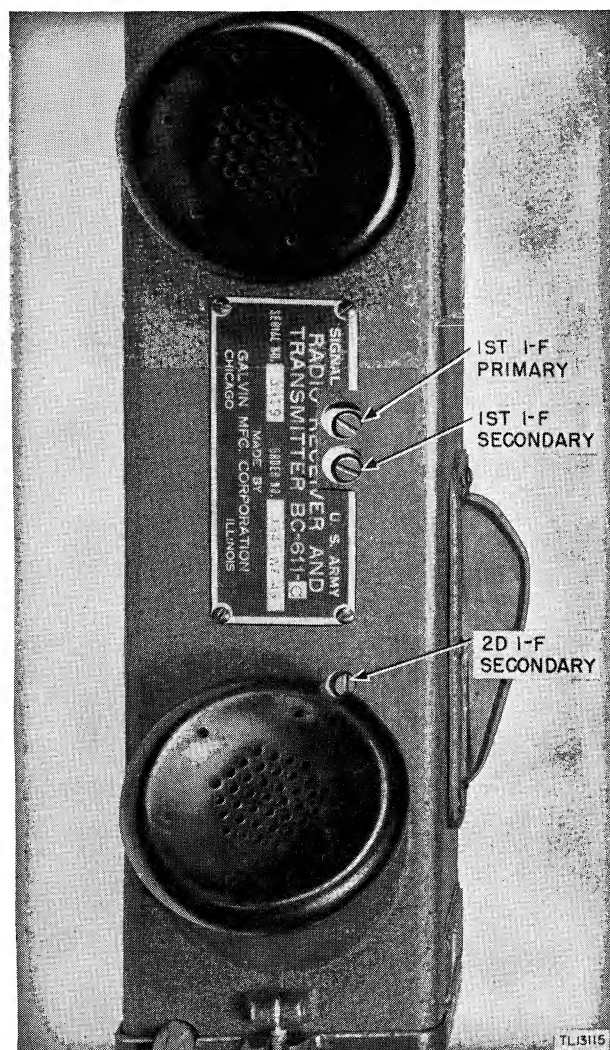

Figure 81. I-f adjustment holes.
l. Mount the nameplate in the original position and apply name tabs near the adjustments shown in figure 81.